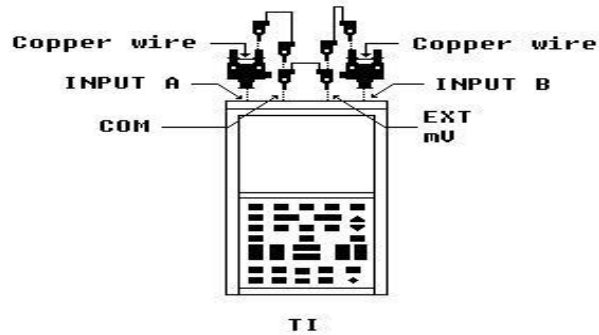

Figure 9. Input short.
(3) Press pushbutton **BACKLIGHT** (sun shaped pushbutton just below **SPECIAL FUNCT** key) with **AUTO SET** together, then release.
(4) Set calibrator to produce + 12 V dc.
(5) Press **(F4) CALIBRATE SCOPEMETER**.
(6) Displayed are the numbers of calibration memories free. Press **(F1) CLOSE** to display **CONTRAST, SCOPE, METER, ESCAPE, and CAL STORE**.
(7) Press **(F2) SCOPE** to display/highlight **SCOPE** and **CAL 1**.
(8) Set calibrator to standby.
(9) Remove +12 V dc from calibrator to TI.
(10) Connect equipment as shown in figure 9 below: